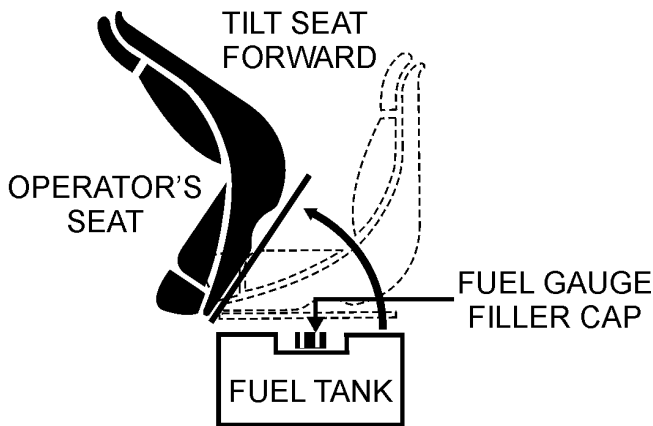

Figure 10. Fuel Tank Access
2. Tilt the operator's seat (Figure 10) forward to gain access to the fuel tank.